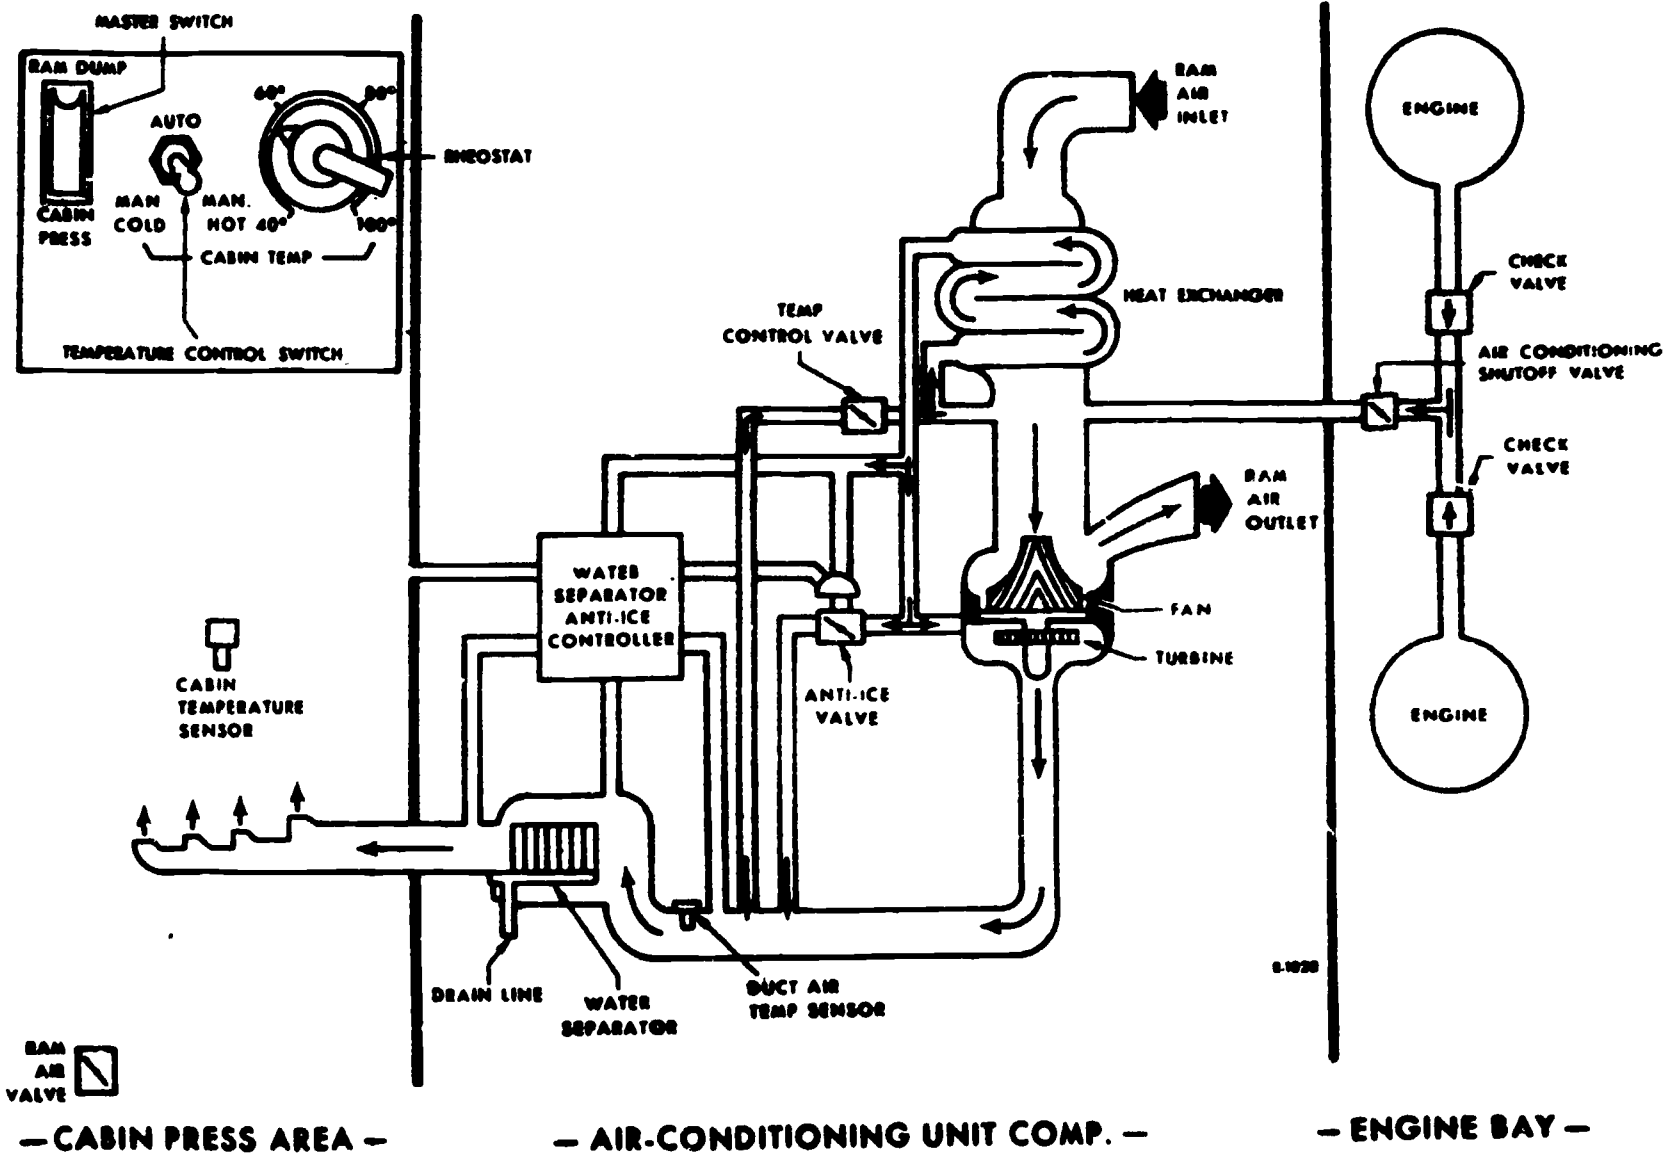

Figure 1. Air Conditioning System Trainer Layout.
2. Look at figure 1 on page 3. This figure shows the trainer that you will be working with and will help you to locate the various components. You must be able to locate and identify each component to correctly perform the performance test and troubleshooting. After you are familiar with the trainer you may continue with this lesson.